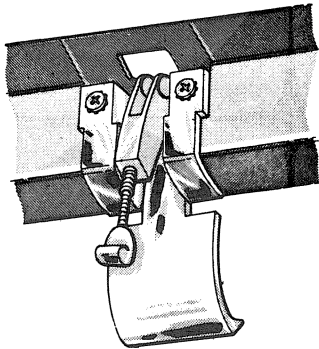

FIG. 3-22—Toggle Clamp
1. To determine which side is not sealing, check the weatherstrip between the header bow and the header. Both toggle clamps need not be adjusted unless necessary. (Fig. 3-22)